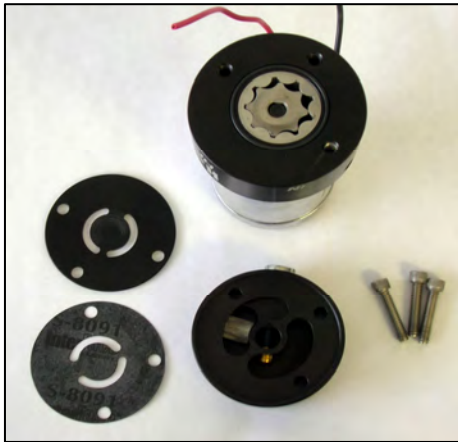

Figure 2
3. Hold the pump with the motor to the bottom and remove the bottom housing assembly, gasket, o-ring and gerotor cover plate making sure the gerotor set does not fall out. **(Figure 2)**